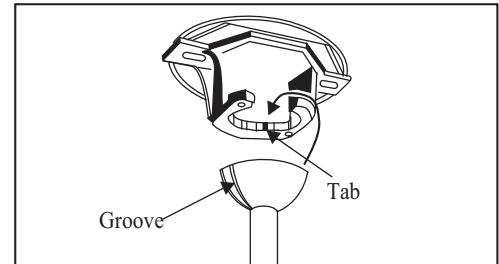

Figure 8
4. Carefully lift the fan assembly up to the ceiling mounting bracket and seat the hanger ball in the mounting bracket socket. Make sure the tab on the mounting bracket socket is properly seated in the groove in the hanger ball. (Figure 8) This will help to balance the ceiling fan.
**THE TAB IN THE RING MUST REST IN THE GROOVE OF THE HANGER BALL AS FIGURE 8. FAILURE TO PROPERLY SEAT THE TAB IN THE GROOVE COULD CAUSE DAMAGE TO WIRING.**